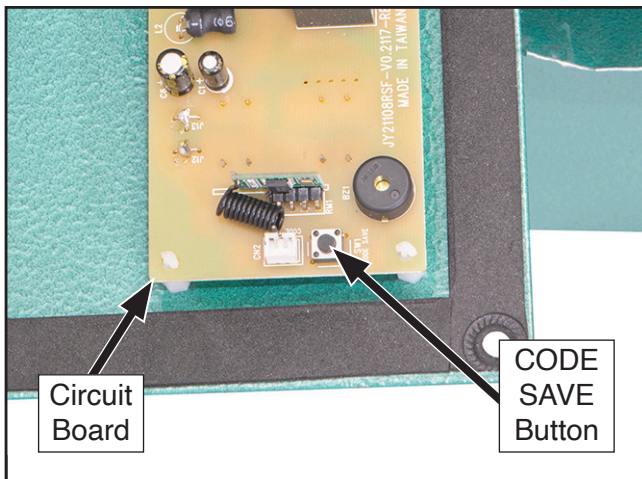

Figure 39. Location of circuit board and CODE SAVE button.
2. Press and hold CODE SAVE button (see **Figure 39**) on circuit board with wooden dowel until it beeps once.